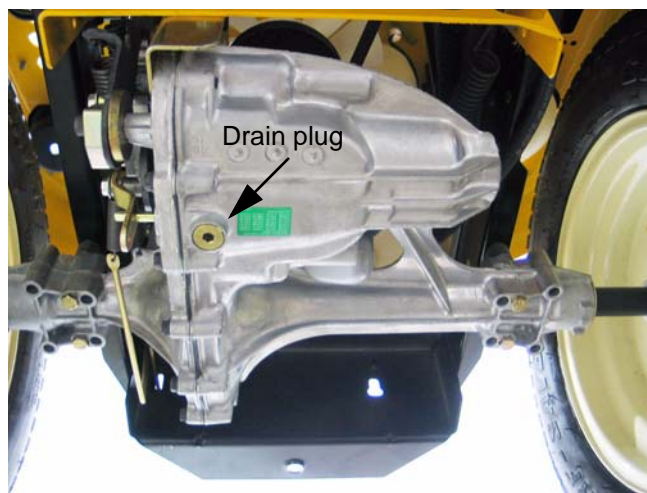

Figure 28.10
- 28.10. A new addition to the transaxle is a drain plug. Depending on the date of manufacture, this plug may or may not be present. See Figure 28.10.